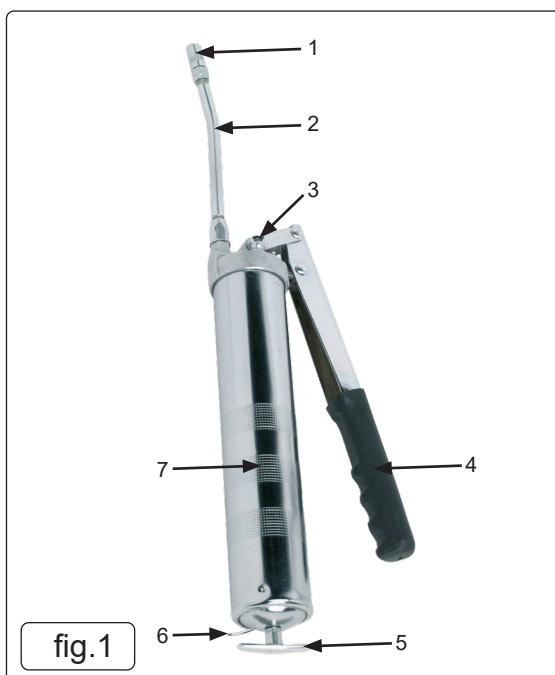

fig.1
4.1.1. Separate the gun head from the grease gun barrel (fig.1).
4.2.1. Withdraw the plunger rod fully and lock in place using lock lever (fig.1).
4.3.2. Slowly pull back the plunger handle (fig.1) to pull the grease into the barrel. Lock the rod with the lock lever (fig.1).